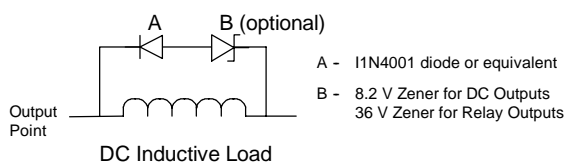

Figure 3-3 Suppression Circuit for a DC Load
Figure 3-3 shows a sample suppression circuit for a DC load. In most applications, the addition of a diode (A) across the inductive load is suitable, but if your application requires faster turn-off times, then the addition of a Zener diode (B) is recommended. Be sure to size your Zener diode properly for the amount of current in your output circuit.